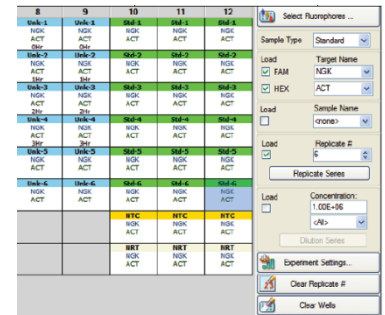

Figure 9. Plate editor figure from Bio-Rad Software Plate Quick Guide
4.12. Select wells to load in plate diagram. (See Fig. 9 for 4.12-4.17)